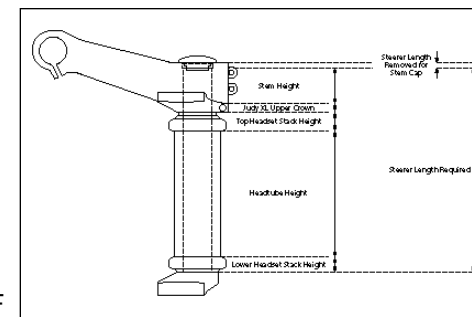

Fig.3
- The steerer tube may need cutting to proper length. To cut the steerer tube, removal of the upper tubes are required. This is necessary otherwise the upper tubes will be in the way when cutting the steerer tube to proper length. The steerer tube length is determined by the following parts: Judy XL/XLC upper crown steerer clamp length, stem steerer tube clamp length, frame head tube length and top and bottom headset stack height (see Fig. 3, next page). To ease in the assembly, do not install the JUDY XL/XLC upper crown on to the upper tubes until the steerer has been cut to the proper length and the lower crown has been fastened in the required position. **HINT: MEASURE TWICE AND CUT ONCE!**